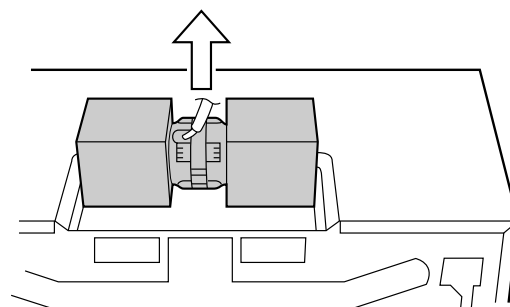

Figure 9
2. Withdraw Hood Fan Unit carefully and slip wires out of Wire Box. See Figure 9.